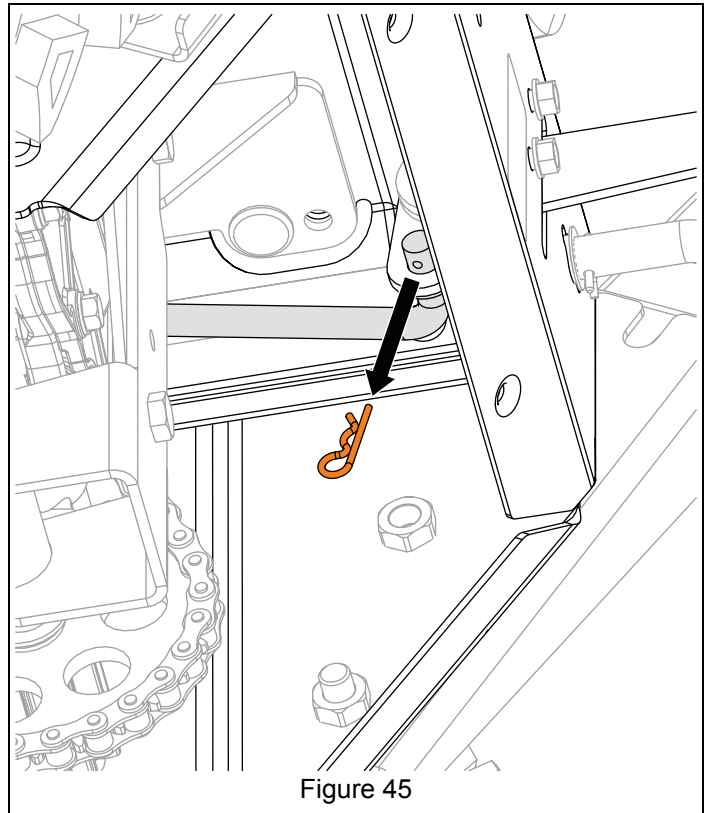

Figure 45
14. Remove hairpin securing shift rod to bell crank at unit rear and remove shift rod. See Figure 45.